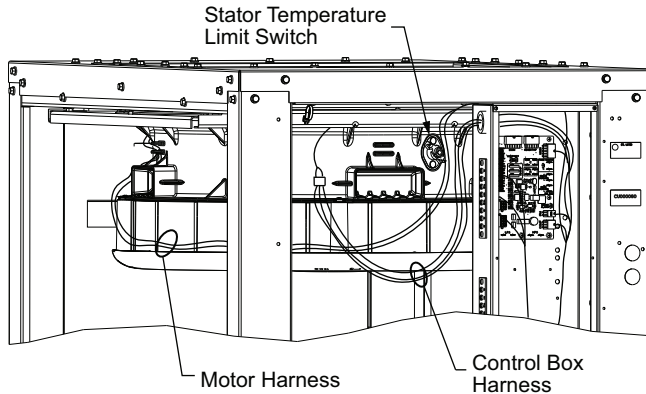

Fig. 24 — Locations of Motor Harness and Stator Temperature Limit Switch
1. Unplug motor harness from control box harness. See Fig. 24.
2. Unplug connectors from stator temperature limit switch. See Fig. 24.